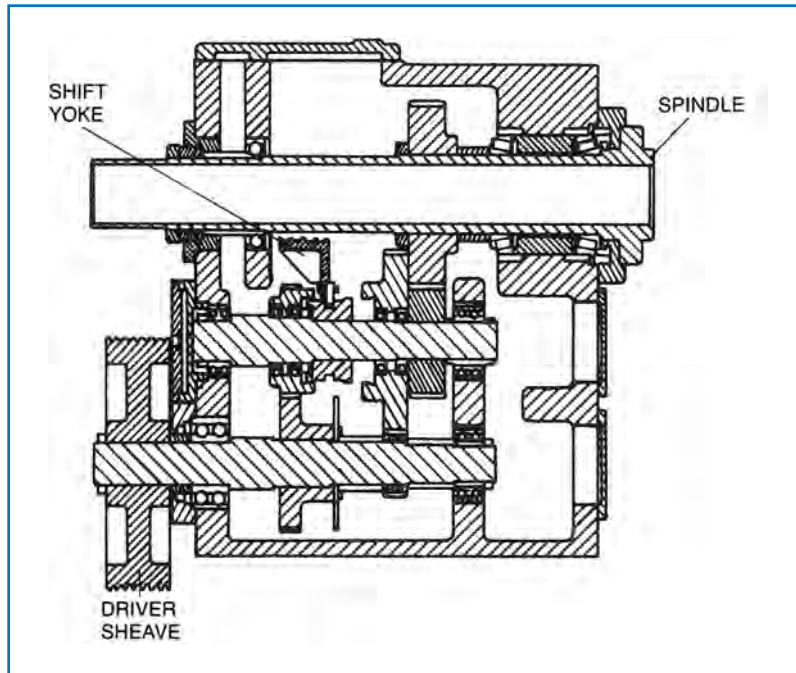

Fig. 22. Quick change gearing arrangement
**Fig. 22** shows one type of quick change gearing arrangement for a modern precision turning machine. The self-contained gear housing is mounted on the main frame of the machine. Speeds are changed by shifting a lever actuating the yoke. This system allows the operator to select and shift gear combinations to adjust the speed of the spindle to suit
the requirements of the machining operation. The gear transmission in Fig. 22 is used in conjunction with a motor and silicon rectifier. Many older machine tools still require the operator to calculate the gear ratios needed for a job, and to then select the proper gear combinations. You should be able to calculate the speeds and feeds for a given project.